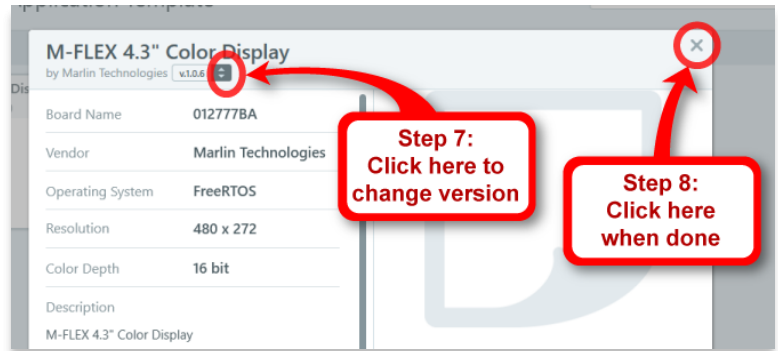

Figure 3
7. To see the list of available template versions, click the up/down arrows beside the version number, as shown in Figure 3. If the up/down arrows are not available, or the desired version is not shown, contact Marlin Technologies. Otherwise, select the desired version from the drop-down menu.
8. Click the X in the upper-right corner of the window (see Figure 3) to close it.